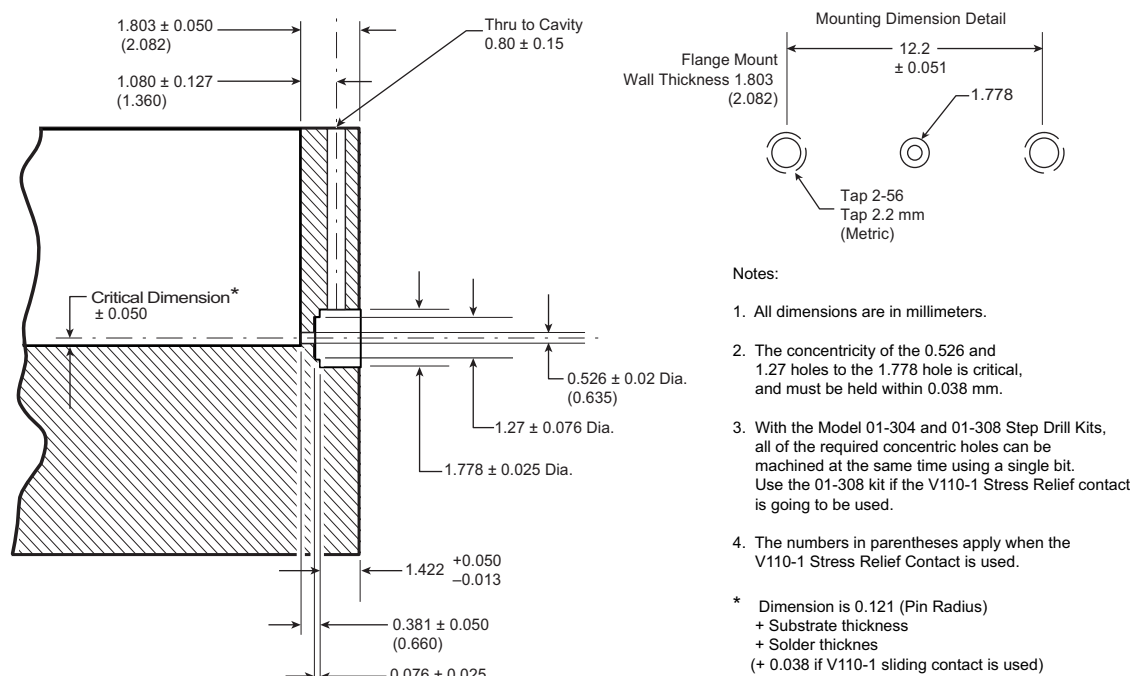

Figure 5-1. V103F-R Machining Dimensions for the Flange Mount Connector Mounting Holes
Machining dimensions for the mounting hole required for installation of the microstrip to V female flange mount connector are provided in Figure 5-1 below.
Caution	The three holes shown in Note 2 of Figure 5-1 must be concentric within ± 0.038 mm. If they are not, connector performance will be degraded. To make this required concentricity easier to achieve, the custom made Finishing Step Drill & Tap Kits, Models 01-304 and 01-308, are available from Anritsu.
- V103F-R: Figure 5-1 on page 5-2